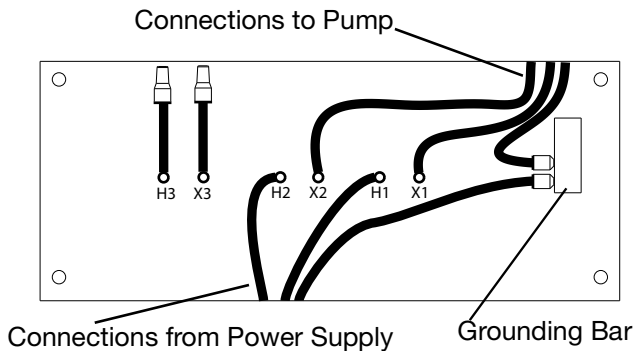

FIG. 9: Transformer Wiring Connections
5. Refer to **FIG. 9** on page **12** and connect the wires from the power cord to the wires marked H1 and H2 inside the transformer.
6. Connect the power cord ground wire to the grounding bar inside the transformer as shown in **FIG. 9** on page **12**.
NOTE: The other wires shown in **FIG. 9** (H3, X3) are connected at the factory and are not required for connecting the transformer to the pump.